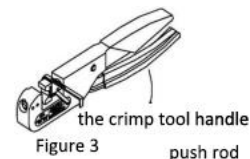

Figure 3
- (2). Close the crimp tool handle and slide the die removal tool between the die and tool body (See Figure 3). Pull handle open with a snap action. The die will be released and can then be removed by hand.